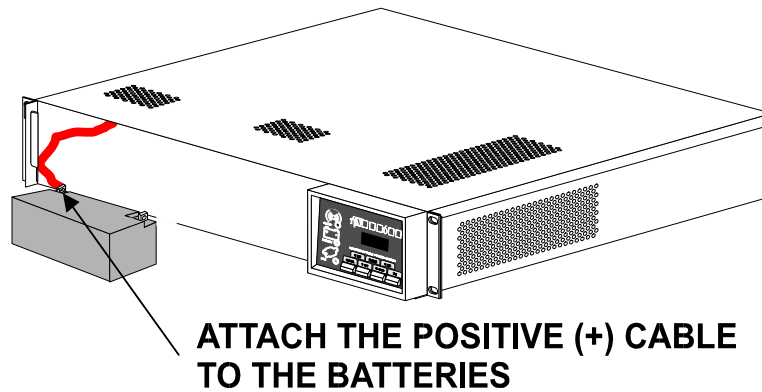

Figure 8
- a. Connect the red wire to the positive (+) on the left hand battery. (See Figure 8.)